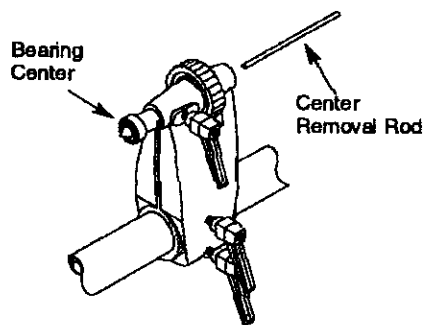

Figure 5
- To remove bearing center from tail stock quill, insert the center removal rod into the quill and gently tap the center out. Refer to Figure 5.